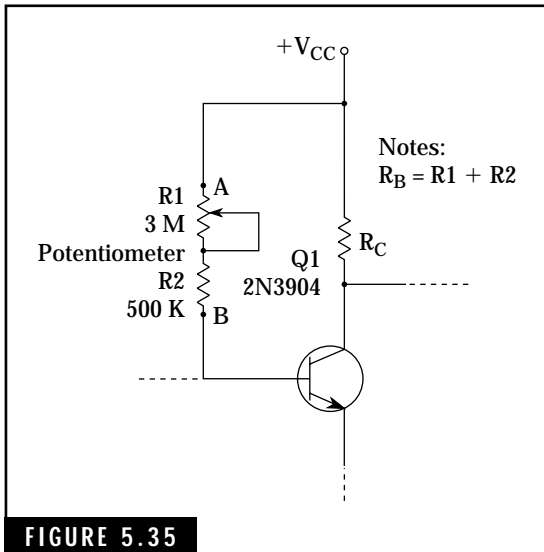

FIGURE 5.35
- Figure 5.35 illustrates how a variable resistor network can be temporarily installed in the base-biasing circuit (between points A and B). Note that a fixed resistor is used along with the potentiometer in order to prevent excessive base current. The total range of this resistive network can be varied from 0.5 to 3.5 megohms.